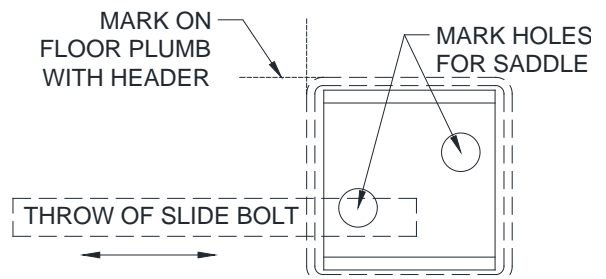

Figure 5.13 - Tube Saddle Hole Location
Note: If bottom bar locking is provided, be sure to orient the saddles as not to interfere with the throw of the slide bolt. See **Figure 5.13**.
- Use the mark placed on the floor in the previous steps, to locate where the saddle will be and mark the hole locations by placing the saddle on the floor. See **Figure 5.13**.